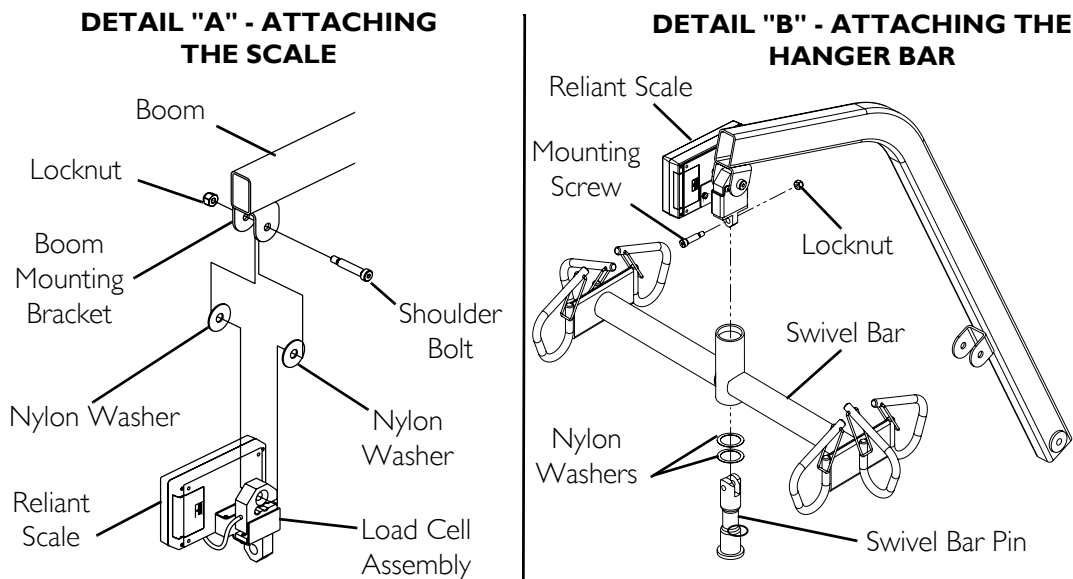

FIGURE 2 Install the Reliant Scale
NOTE: For this procedure, refer to FIGURE 2.
1. Position the load cell assembly of the Reliant Scale into the boom mounting bracket. Refer to Detail "A" in FIGURE 2.
2. Secure the Reliant Scale to the boom mounting bracket with a shoulder bolt, one small steel washer, two nylon washers and a locknut. Securely tighten. Refer to Detail "A" in FIGURE 2 for washer orientation.
3. Insert swivel bar pin with two nylon washers through the swivel bar. Refer to Detail "B" in FIGURE 2.
4. Align the mounting holes in the swivel bar pin with the mounting holes in the load cell assembly. Refer to Detail "B" in FIGURE 2.
5. Secure swivel bar pin to the load cell assembly with the provided mounting screw and locknut. Securely tighten. Refer to Detail "B" in FIGURE 2.